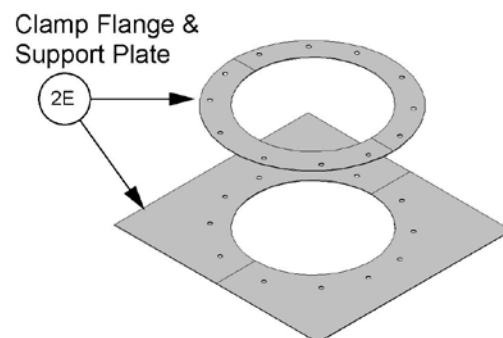

Figure 7. Plate Support Assembly - Support Plate and Clamp Flange
- b. Refer to Figure 7. Use the Plate Support Assembly Joint (Item 2D) method to join the inner liner flanges of the penetrating duct section and the next duct section above the floor/ceiling assembly.
- c. Secure support plates to the support frame by welding or mechanically fastening using min. 1/2 in. steel bolts, nuts and washers. Use a min. of one (1) bolt or one 1-1/2 in. long weld at each of the four (4) corners of the support plates.